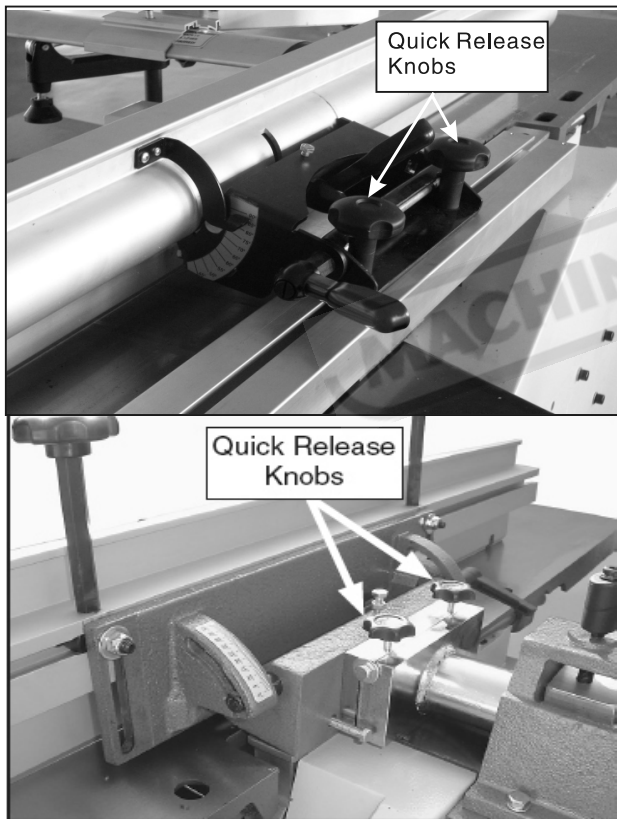

Figure 20. Fence removal.
3. Loosen the quick release knobs (**Figure 20**) and slide the fence off the machine.